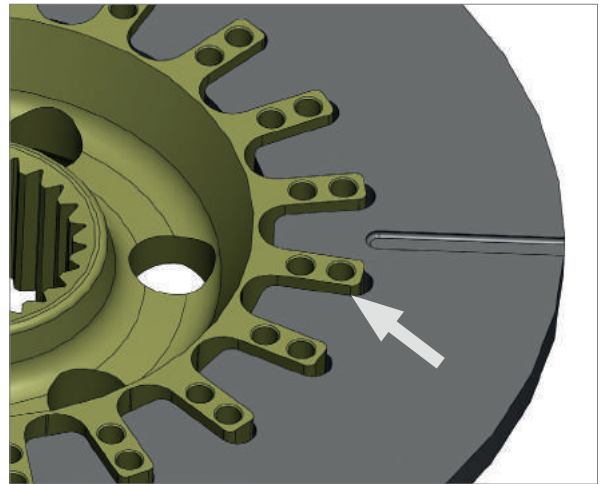

Figure 4.
- With the carbon driven plates on the hub measure the gap between the drive face and the hub, (figure 4). These gaps should be no more than 1mm.